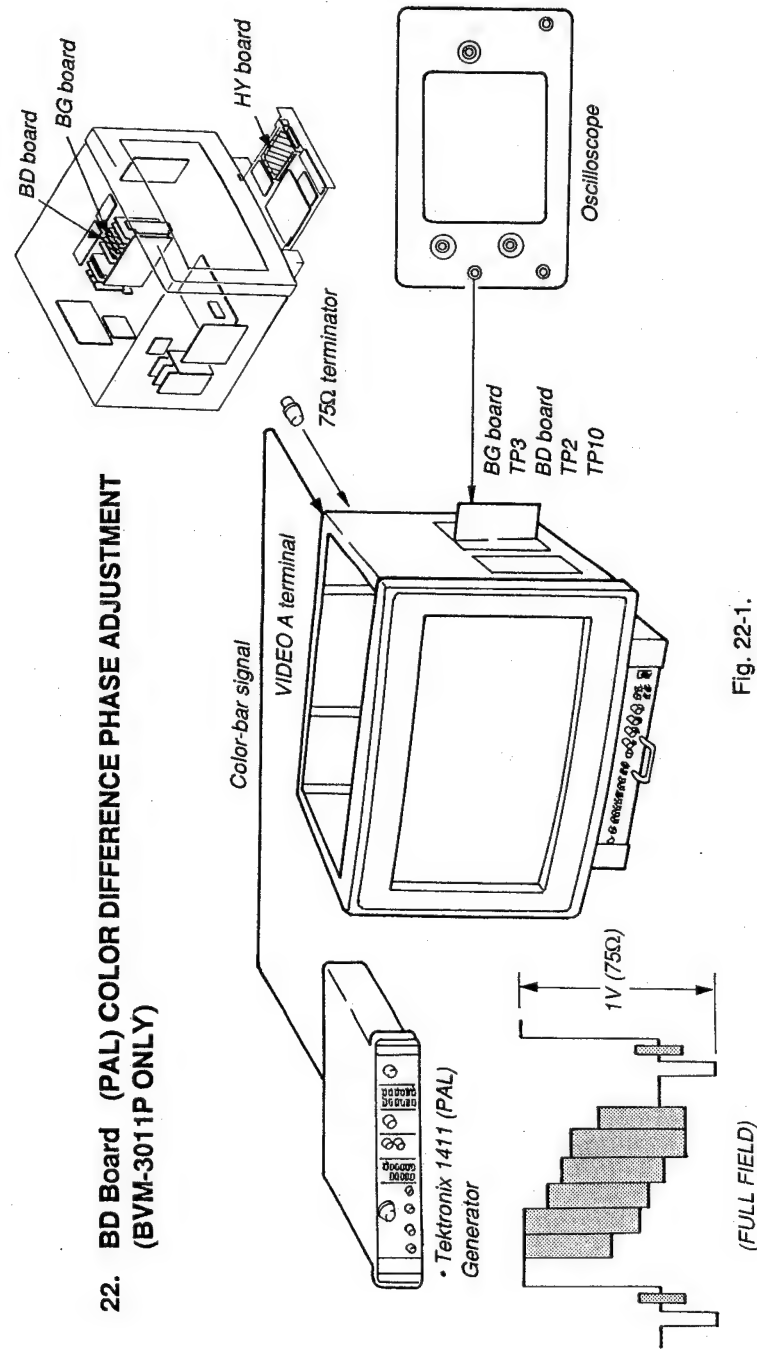

Fig. 22-1.
1. Complete the connections as shown in Fig. 22-1.